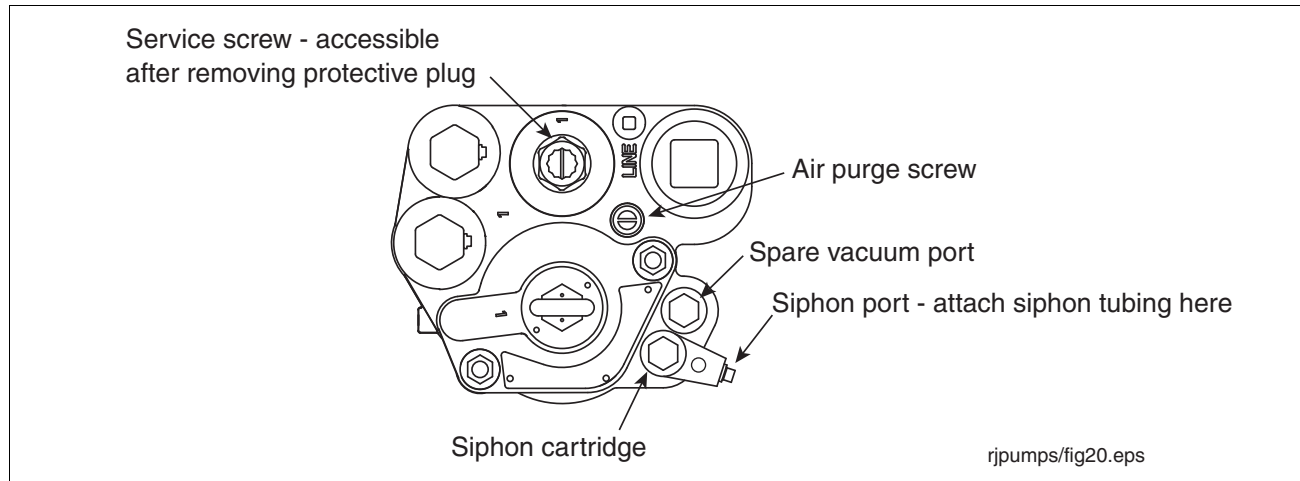

Figure 28. Siphon Connection
The siphon port for The Red Jacket STP is in a siphon assembly that fits into one of the two vacuum ports (see Figure 28). The port end can be swiveled after loosening the hex on top to accommodate the incoming siphon tube. Torque the siphon assembly to 15-30 ft-lbs (20-41 N•m) after positioning.
2. Open the air purge screw 2 - 3 turns counterclockwise (see Figure 28).